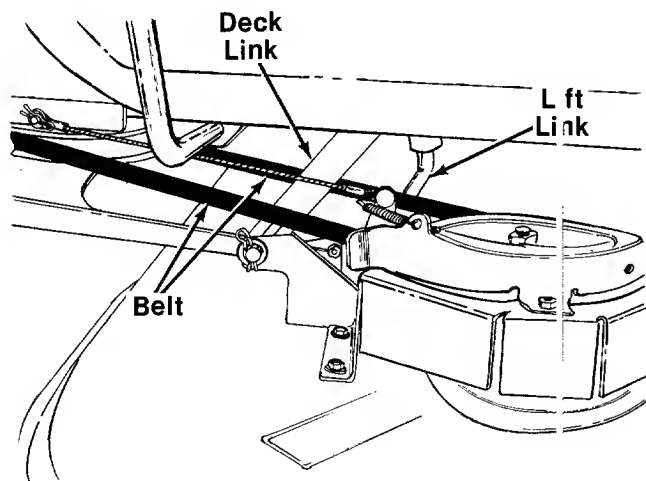
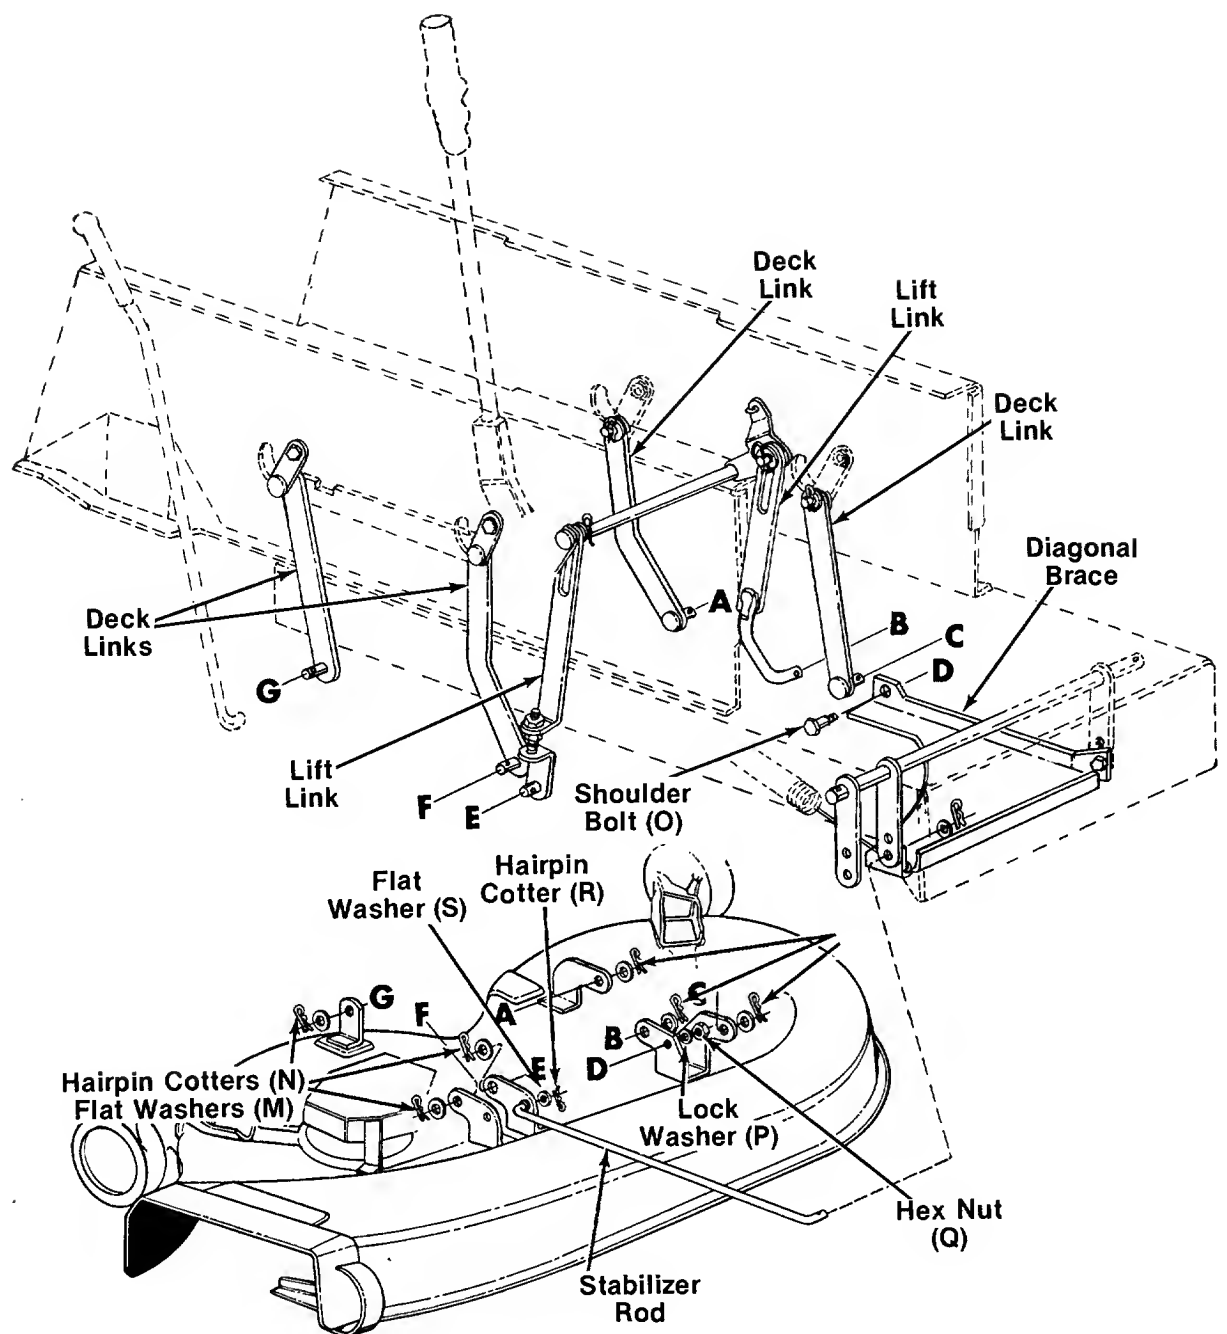

FIGURE 11.
FIGURE 12.
6. Attach the two lift links, and then the four deck links to the deck as shown in figure 12 using six flat washers (M) and hairpin cotter (N). Be certain to route one side of the belt between the left hand lift link and deck link, and the other side outside of the deck link, as shown in figure 11.
7. Place the deck engagement lever in the engaged (forward) position. Attach the stabilizer rod to the deck using flat washer (S) and hairpin cotter (R). See figure 12.
8. Move the deck engagement lever to the disengaged position. Attach the diagonal brace to the deck as shown using shoulder bolt (O), lock washer (P) and hex nut (Q). See figure 12.